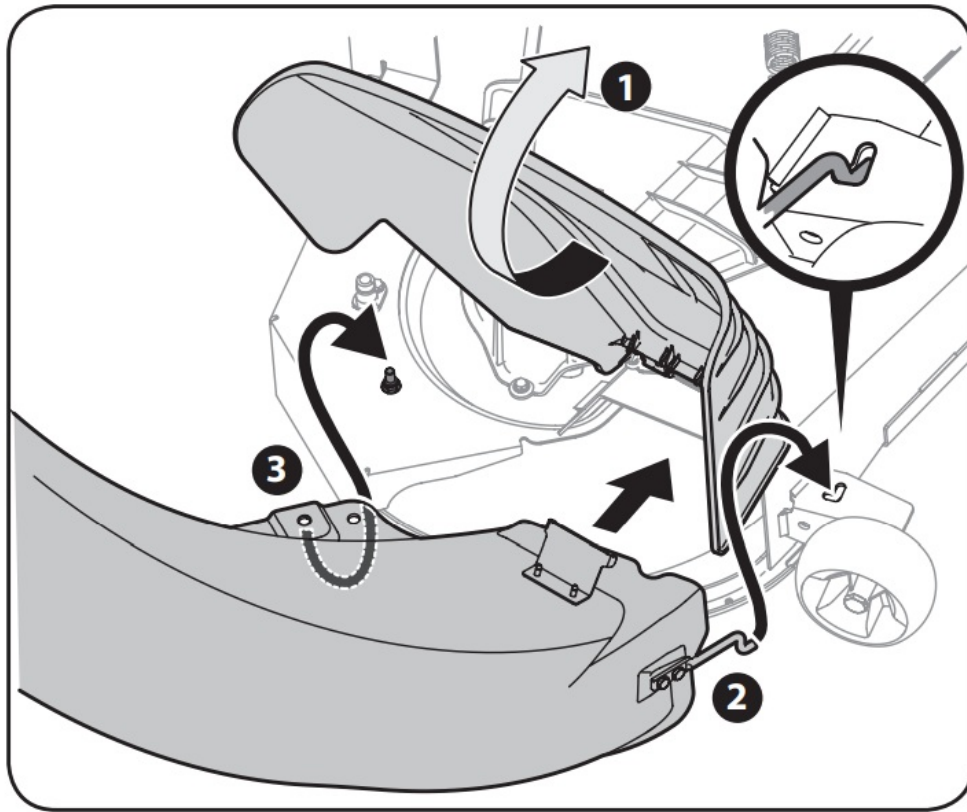

Figure 4-19
2. Raise the chute deflector (1 in Figure 4-19) on the deck and hold it while you position the discharge chute over the chute opening.
3. Insert the end of the discharge chute elbow (2) into the hole provided in the deck wheel mount as shown in the inset of Figure 4-19.
4. Pivot the discharge chute rearward until the hole in the discharge chute elbow aligns with the pin on the deck. Move the discharge elbow down onto that pin as shown in 3 of Figure 4-19.